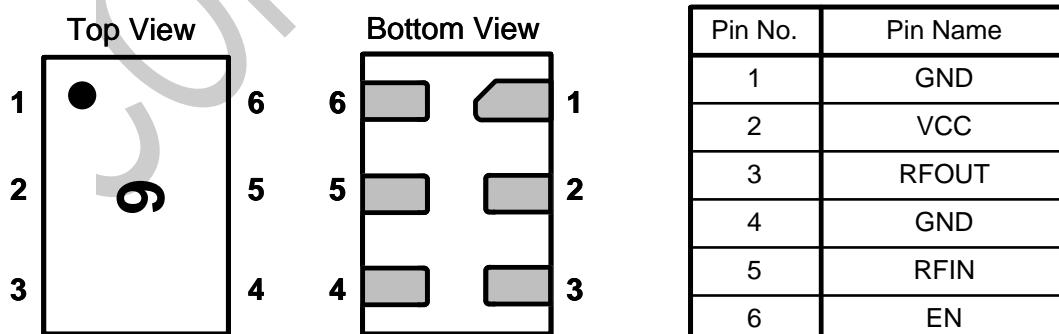

Figure 2. SW7126D Pin Configuration and Marking
1. The SW7126D requires only one external inductor for input matching. If the device/phone manufacturers implement very good power supply filtering on their boards, the bypass capacitor mentioned in this application circuit may be optional. With the capacitor, we can get better performance like a little higher gain etc. The value is optimized for the best gain, noise figure, return loss performance. Typical value of inductor is 9.1nH, capacitor is 1nF. For schematics see Figure2.